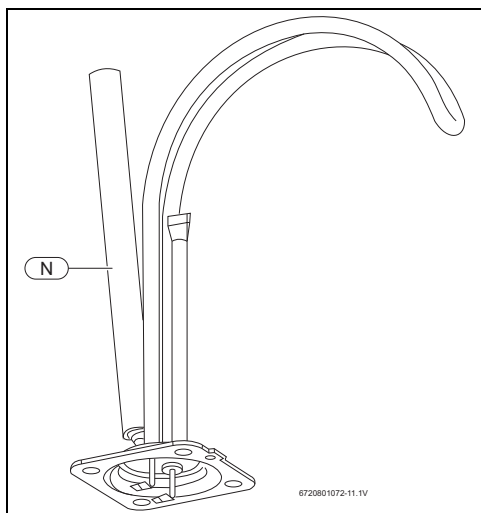

Fig. 13
The purpose of the anode rod (→ Fig. 13, [N]) is to protect the tank against corrosion. Tank corrosion can lead to a water leak that could result in property damage. Anode rods are consumable items, designed to corrode over time from the effects of minerals that occur naturally in water. Sometimes called sacrificial anode rods, they attract these minerals so that the tank is protected from them. Without a properly functioning anode rod, any glass-lined steel tank including this one will eventually leak.
- ▶ Remove and replace the anode rod (→ Fig. 13 [N]).